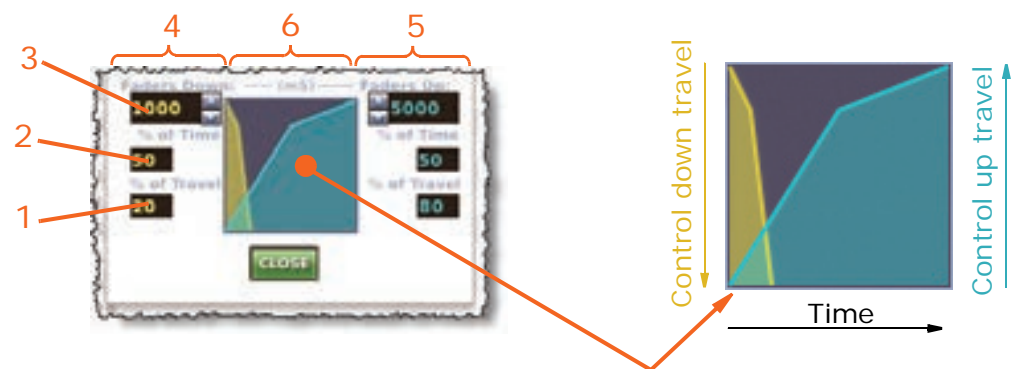

Figure 24: Crossfade set up section
- 8 In the crossfade set up section (see Figure 24 "Crossfade set up section" on page A-207), set up the crossfade parameters, such as time, % of travel etc.